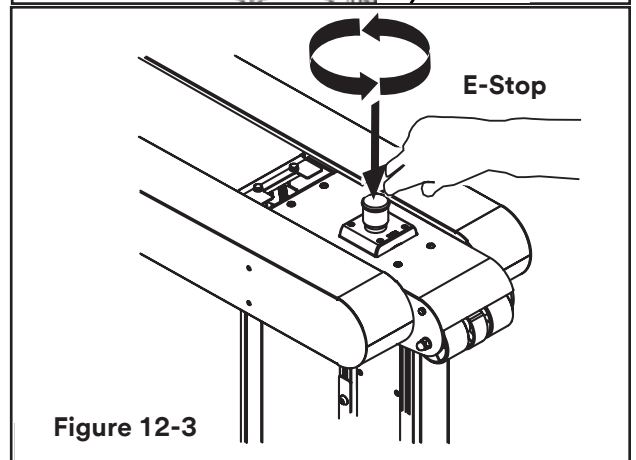

Figure 12-3
Before carrying out cleaning or maintenance operation, stop the machine by turning OFF (O) switch on main and disconnect pneumatic and electric power (Figure 12-3).